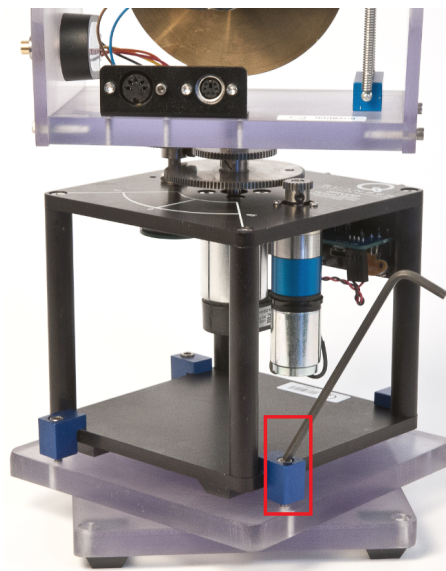

Figure 4.3: Tightening the base plate clamps
5. Place the SRV02 + Gyroscope system on the support plate and secure it in place by rotating the clamps to hold the SRV02 and tightening the screw on each one using the 9/64 allen key as shown in Figure 4.3.